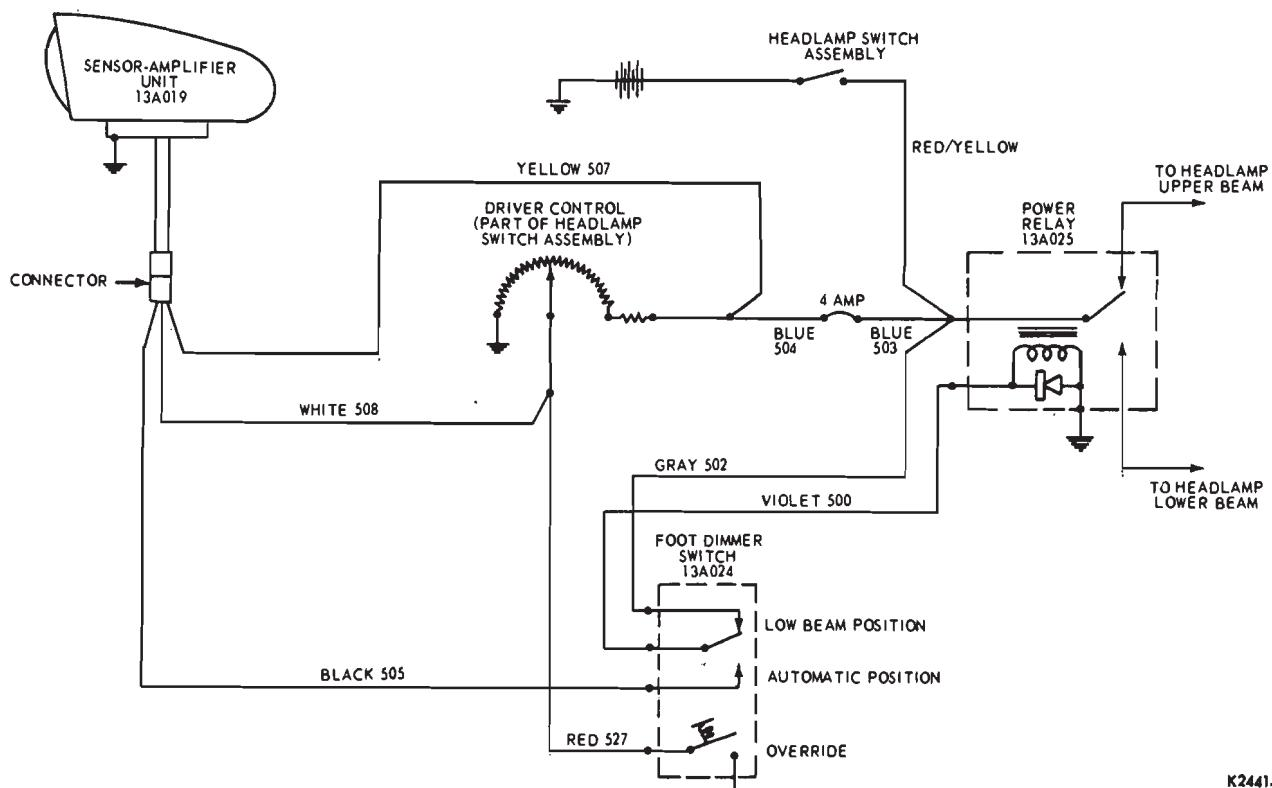

FIG. 1—Automatic Headlamp Dimmer Electrical Wiring Diagram
- b. Disconnect the red wire (override) from the foot switch (Fig. 1). If the lower beam is obtained in both positions of the foot switch, replace the foot switch.